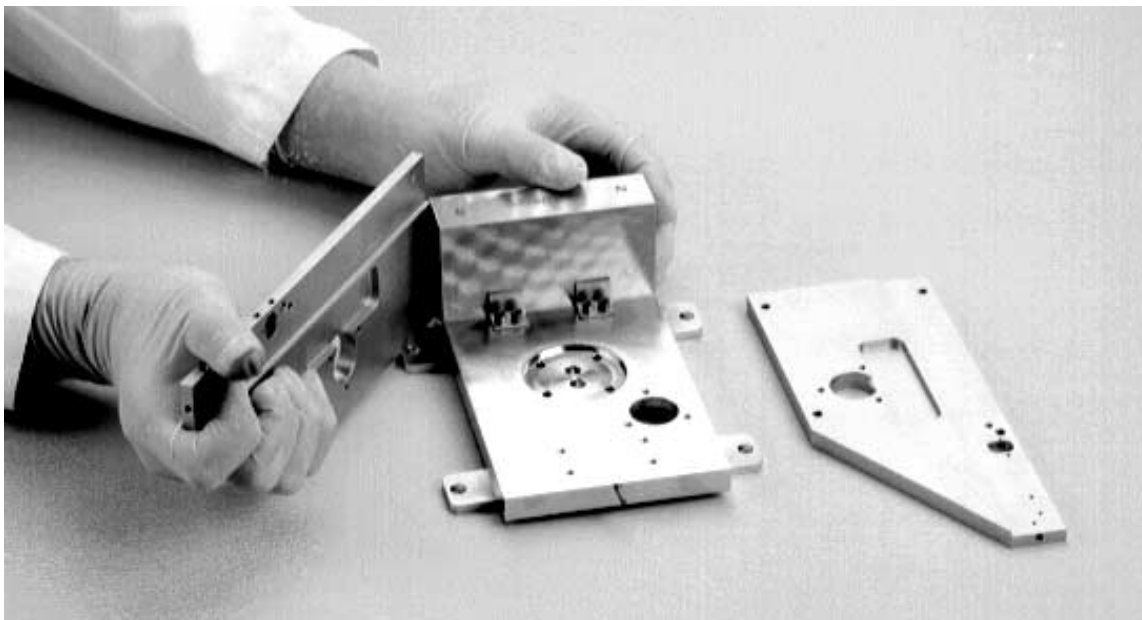
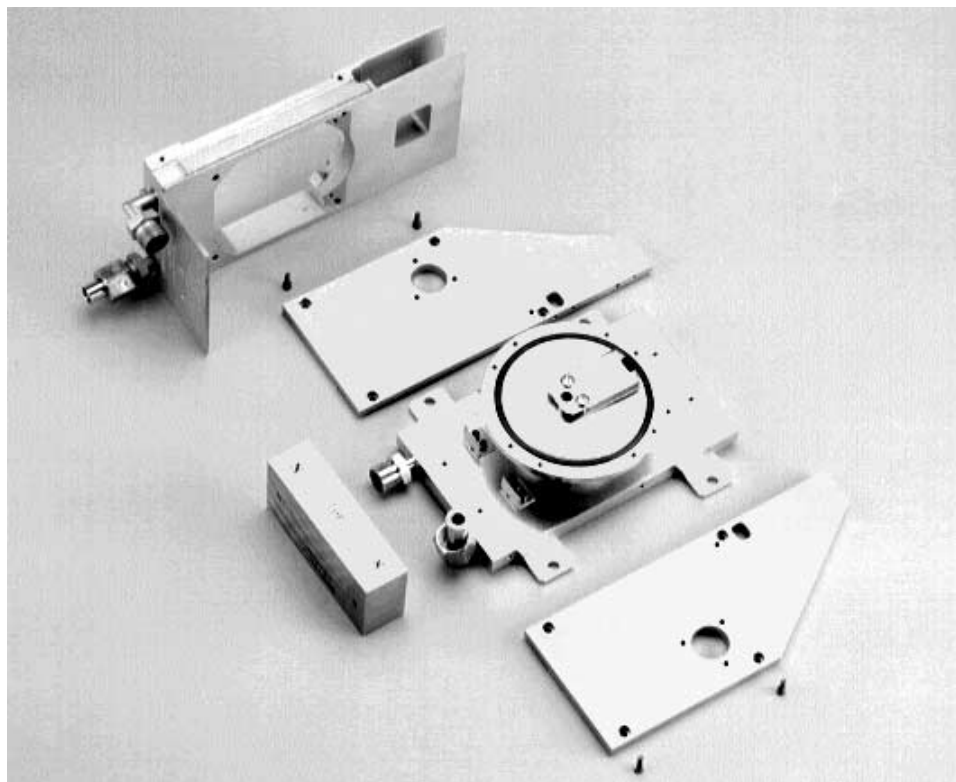

Figure 5-15. Correct technique for detaching pole pieces from magnet and base plate
Figure 5-16. Magnet, pole pieces, and coil housing following removal from source
Step 18: Remove the pole pieces from the remainder of the source. To do so, grasp the permanent magnet with one hand and the angled front end of a pole piece, as shown in Figure 5-15. Then swing the front of the pole piece away from the source and carefully separate it from the rear edge of the magnet, rocking it slowly up and down if necessary to break it free from the magnet's very strong field. (Note: For clarity, Figure 5-15 shows the source as it would appear with the crucible mounting flange and the bearing housing assembly removed. In actuality, those parts would still be attached to the source at this stage of the dis-assembly sequence, as shown in Figure 5-16.)